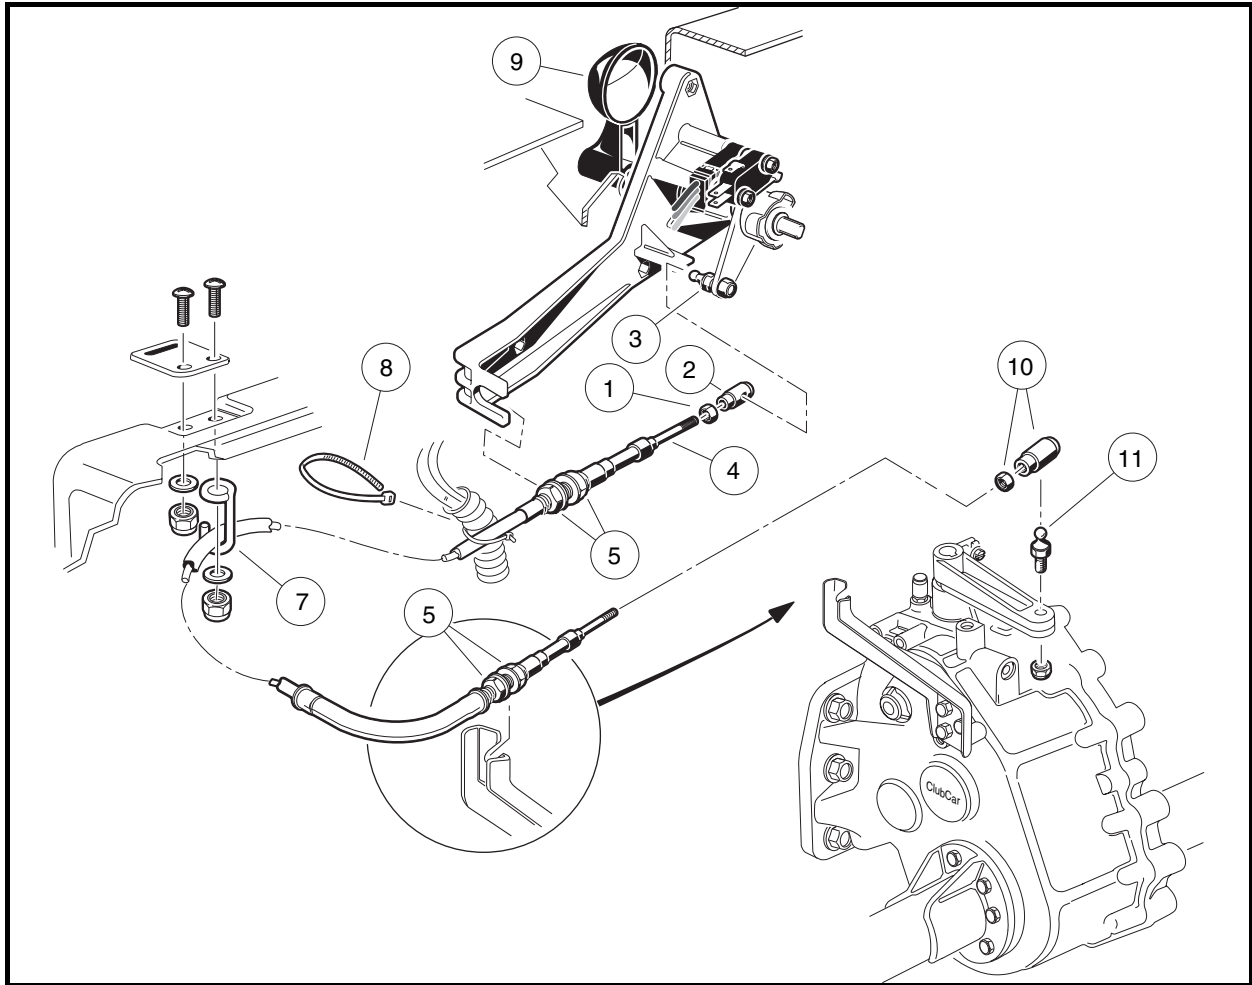
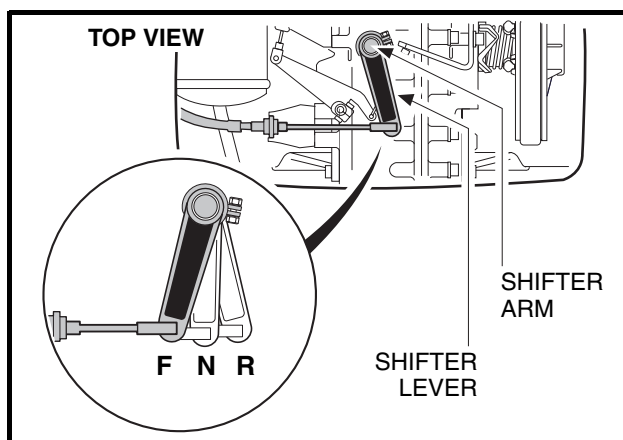

Figure 16-54 Forward/Reverse Shifter Cable
Figure 16-55 Forward/Reverse Positions
3. Remove the ball joint socket (2) from the Forward/Reverse shifter assembly ball stud (3) (**Figure 16-54, Page 16-23**).
4. Remove the ball joint socket (10) from the shifter arm ball stud (11) on the transaxle.
5. Loosen the retaining nuts (5) on both ends of the cable and remove the wire tie.
2. Secure the cable with a retaining nut (5) on each side of the shifter cable support bracket at the transaxle (**Figure 16-54, Page 16-23**). Tighten nuts to 22 ft-lb (29.8 N·m).
3. Secure the cable with a retaining nut (5) on each side of the shifter cable support bracket at the Forward/Reverse assembly. Tighten nuts to 43 in-lb (4.9 N·m).
4. Install the ball joint socket (10) on the shifter lever ball stud (11) on the transaxle.
5. Install the ball joint socket (2) on the Forward/Reverse shifter assembly ball stud (3) (**Figure 16-54, Page 16-23**).
6. Attach Forward/Reverse cable at cable retainer (7).
7. Install wire tie (8) to secure wire harness to cable at the support bracket near the Forward/Reverse shifter assembly. **See following WARNING.**
With the shifter lever of the unitized transaxle in the NEUTRAL position (**Figure 16-54, Page 16-23**), the Forward/Reverse handle (9) should be straight up. For minor adjustments, the nut (1) may be loosened and the ball joint socket (2) rotated to get the proper adjustment (**Figure 16-54, Page 16-23**). **See following CAUTION.**
For major adjustments, the cable retaining nuts (5) must be loosened and adjusted. When the cable is properly adjusted, with the Forward/Reverse handle (9) (**Figure 16-54, Page 16-23**) in the NEUTRAL position, the shift lever of the transaxle will also be in the NEUTRAL position (**Figure 16-55, Page 16-23**). Retighten nuts at the transaxle to 22 ft-lb (29.8 N·m); retighten nuts at the Forward/Reverse assembly to 43 in-lb (4.9 N·m).